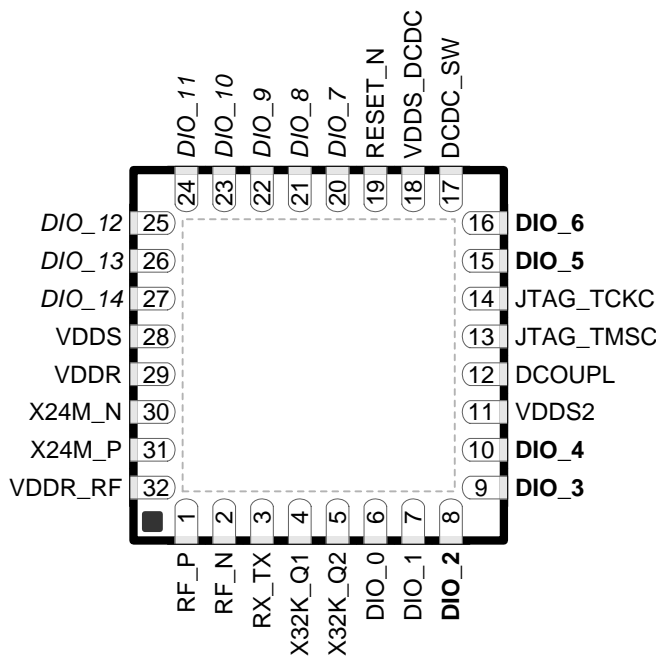

Figure 4-2. RHB (5-mm × 5-mm) Pinout, 0.5-mm Pitch
• Changed <a href="#">Figure 4-2</a> , corrected typo in pin name.....	<a href="#">9</a>
Figure 4-2 shows the RHB pinout diagram.
I/O pins marked in Figure 4-2 in **bold** have high-drive capabilities; they are as follows:
I/O pins marked in Figure 4-2 in *italics* have analog capabilities; they are as follows: